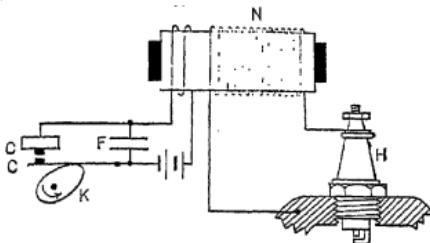

FIG. 158. Circuit of make-and-break gas-engine ignition system;
When the points P are opened, a spark will jump across them due to the high voltage induced. This spark is sometimes used to ignite illuminating gas or the gas mixture inside the cylinder of a gasoline engine. For the latter purpose, however, another type of coil shown in Fig. 158
85. Gas-engine Ignition. The circuit of a make-and-break system of gas-engine ignition for a one-cylinder engine is shown in Fig. 158. The cam K is so geared to the main shaft of the engine that it opens the contacts $C-C$ at the instant when conditions in the cylinder are just right for ignition. During the period in which the contacts $C-C$ are closed, the battery sends a current through the iron-cored coil M (called the primary coil) setting up a flux in the iron core. When this flux changes it induces a voltage both in itself and in the other coil N (called the secondary coil) wound on the same core. Now coil N is composed of many turns of fine wire and has induced in it many times the voltage induced in M . When the circuit through M is broken, this high voltage induced in N is sufficient to send a spark across the gap between the points of the spark plug H . The condenser F steals the current away from contacts $C-C$ when they open, thus preventing burning them.
For automobile ignition, the arrangement of Fig. 158 is modified by providing a vibrator to open and close the points $C-C$ in rapid succession thus giving a series of sparks rather than a single one. This is accomplished by placing the vibrating points at the end of the induction coil thus using